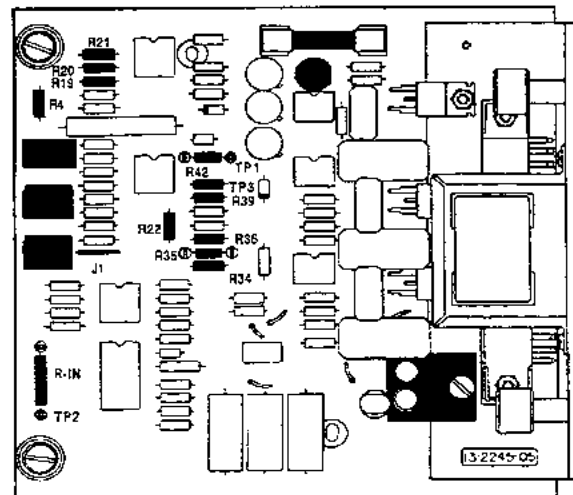

Fig. 13. ESR-4 Components
Span and zero adjustments are located near the edge of the ESR-4 board (see Figure 13, page 29). Monitor the FWD and REV lamps to make adjustments. When the drive is balanced or in L.O.S. mode, both lamps are on. When the output shaft is moving, the lamp designating its direction of travel goes out. When the drive reaches its end of travel before balance is achieved, the lamp will stay out. Trim the adjustment so that the drive balances at the limit with the lamp on. Clockwise rotation of either span or zero adjustment causes the output shaft to drive toward the zero (minimum input signal) position.
4. Short out resistor R35 temporarily with a clip lead (see Figure 13, page 29 for location of R35). **NOTE: Drive will retract.**
The basic span adjustment of the ESR-4 is 2 volts to 6 volts dc. This is adjustable with the 20-turn span trim potentiometer. To make the span adjustable from 2 to 9.5 volts dc, remove resistor R-4. To make the span adjustable from 9.5 to 16 volts dc, remove R-4 and cut jumper wire J-1. See Figure 13, page 29, for location of R4 and J1.
The basic zero adjustment is -20% to 100% of span. This is adjustable with the Zero Potentiometer. For 2-way split range applications, remove resistor R-35 to shift the zero adjustment to 20% to 150% of span. For 3-way split range operation, remove resistors R-35 and R-36 to shift the zero adjustment to 150% to 275%. For other split range applications, consult factory for adjustment. See Figure 13, page 29, for location of R35 and R36.
Higher gains (reduced deadband) are also possible with the ESR-4. Consult your factory representative for details. See Figure 13 for location of R39 and R42.
If the input signal drops below a predetermined value, the L.O.S. feature is activated. The standard setting of this signal value is approximately 12% of the signal span below the zero signal value. For example: 12% of a 16 mA signal span is 1.92 mA (4.0 mA–1.92 mA). The trip point is determined by the value of two resistors on the ESR-4 board. To change the trip point, resistors R20 and R21 must be replaced. See Figure 13 for location of R20 and R21.
The L.O.S. function can be disabled by removing R19. See Figure 13 below for location of R19.